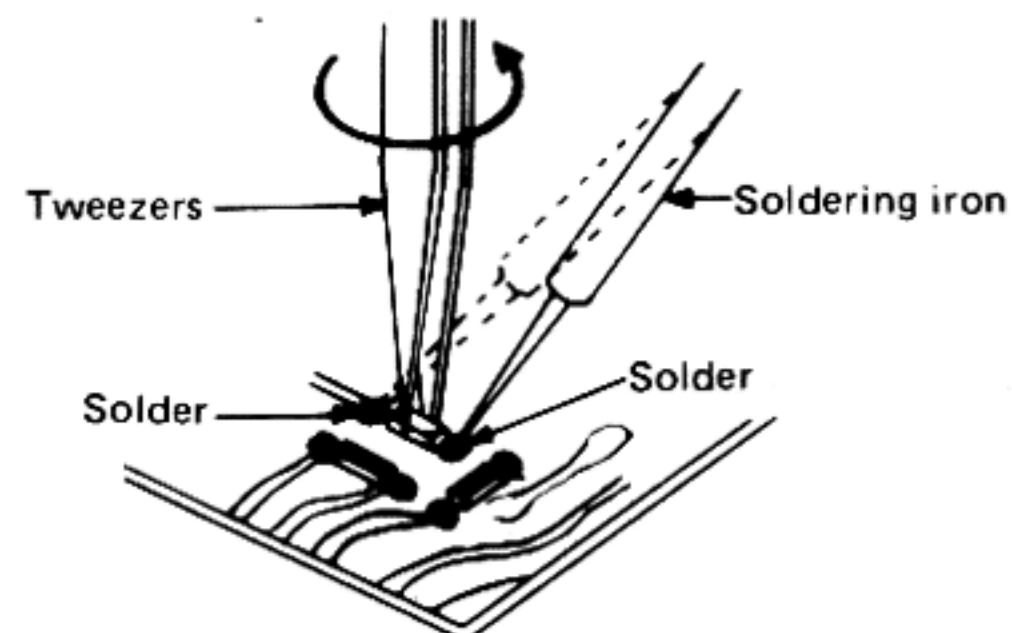

Fig. 19
2. Touch the soldering iron to the end of the chip as shown in Fig. 19, then turn the tweezers in the direction of the arrow.